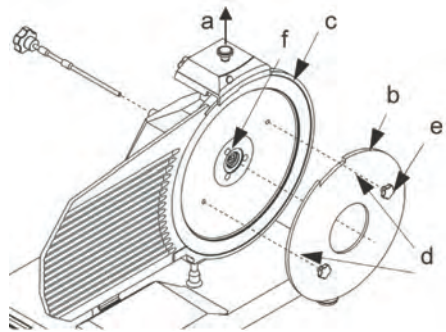

Fig. 5 - Assembling the Plexiglas blade removal tool (b)
To clean the opposite surface of the blade it is necessary to remove the blade (see Fig. 5).
- disassemble the blade guard (see Fig. 5);